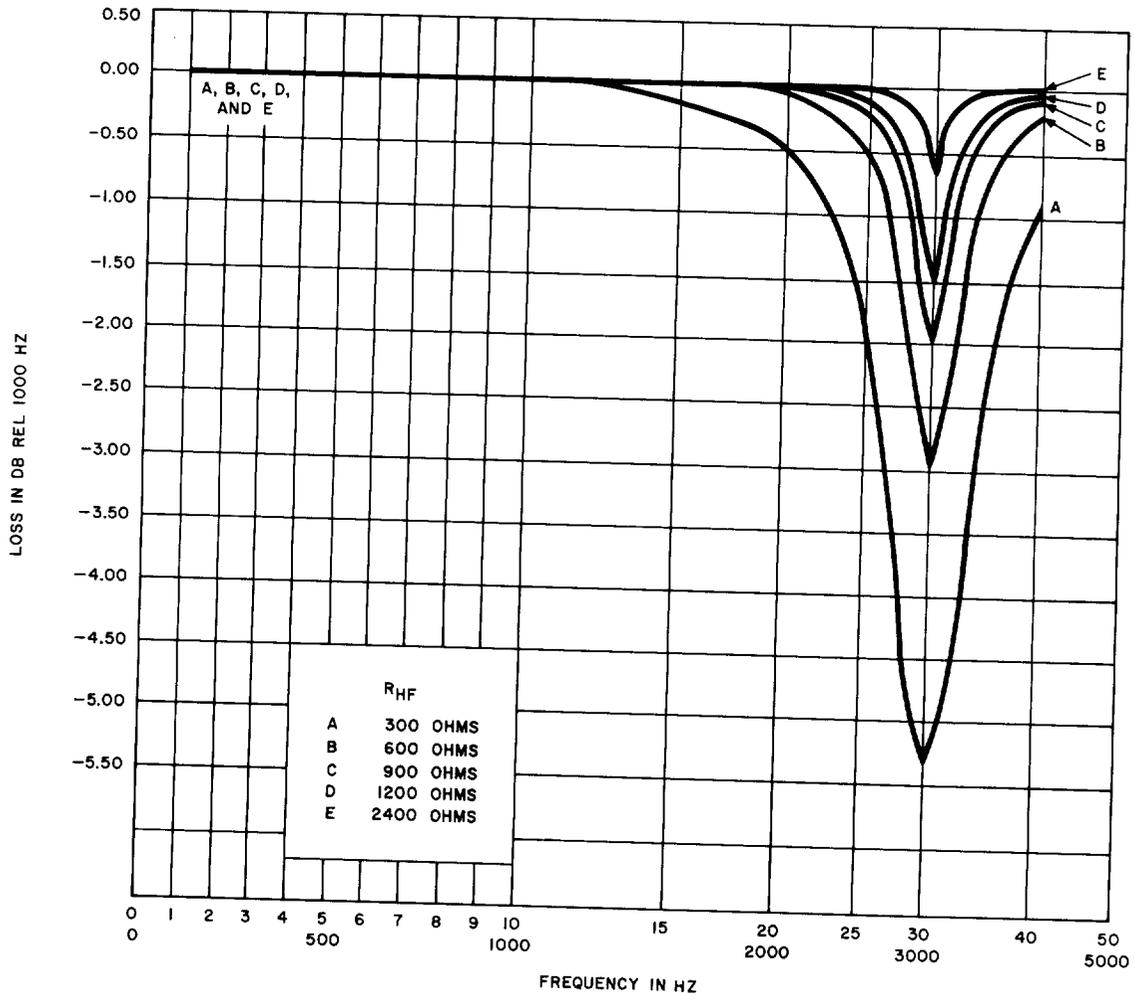

Fig. 6—4182C Network, High-Frequency Section, Loss-Frequency Characteristics Between 600-Ohm Impedances—At Various Settings of R_{HF}
4.05 The shunt arm high-frequency components provide amplitude equalization for H88 loaded, high-capacitance cable where the nominal cutoff is 3500 Hz. Capacitor C1 and inductor L1 form a parallel resonant circuit tuned to 3000 Hz which is in series with the adjustable resistor R_{HF} . Varying resistor R_{HF} adjusts the amount of high-frequency equalization for various lengths and gauges of facilities. Figure 6 illustrates the typical corrective losses which may be obtained by various settings of R_{HF} .